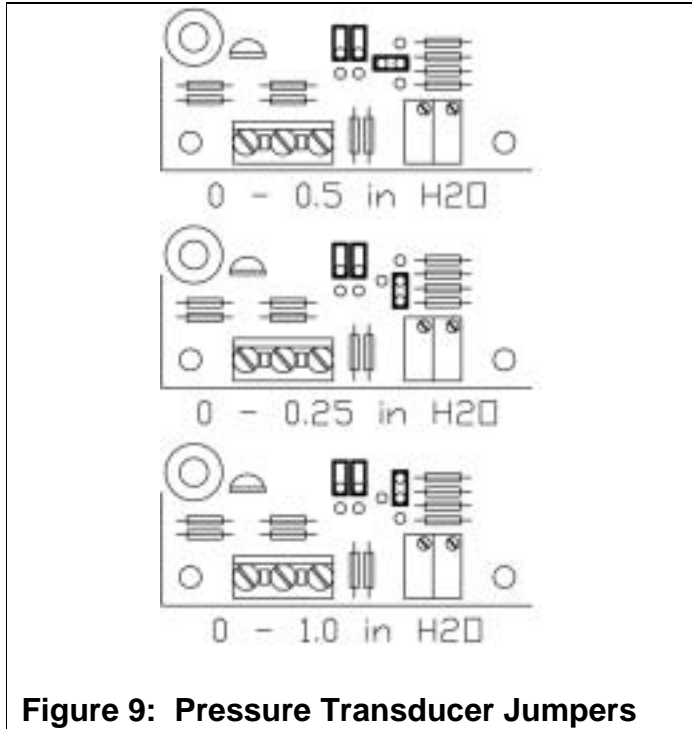

Figure 9: Pressure Transducer Jumpers
- 6) Verify that the jumpers on the pressure transducer are installed correctly, per Figure 9. The default pressure transducer output range is 0–0.5 in H₂O.